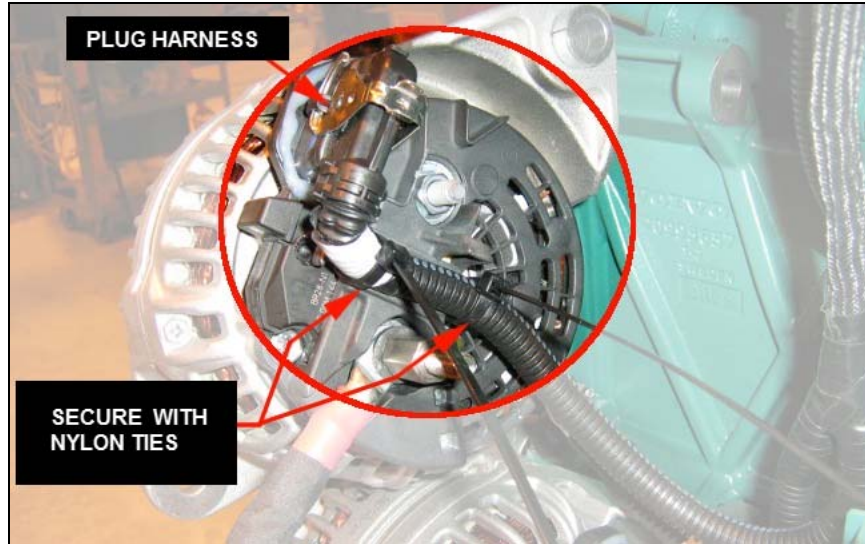

FIGURE 25
- Plug alternator harness onto alternator connector and secure using nylon cable ties (**FIGURE 25**).